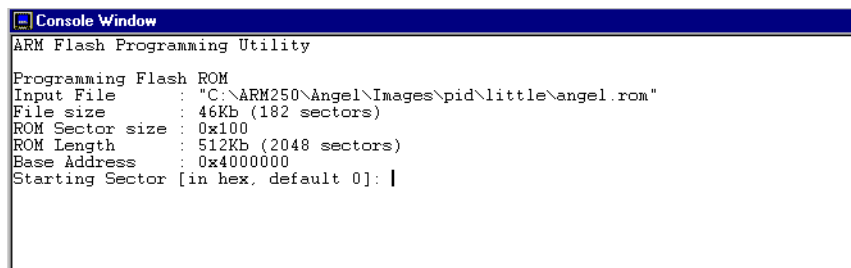

Figure 8-2 Entering a start address
3. Click **OK**. The Flash downloader reads the binary file and request a start address in the console window of the Debugger (Figure 8-2).